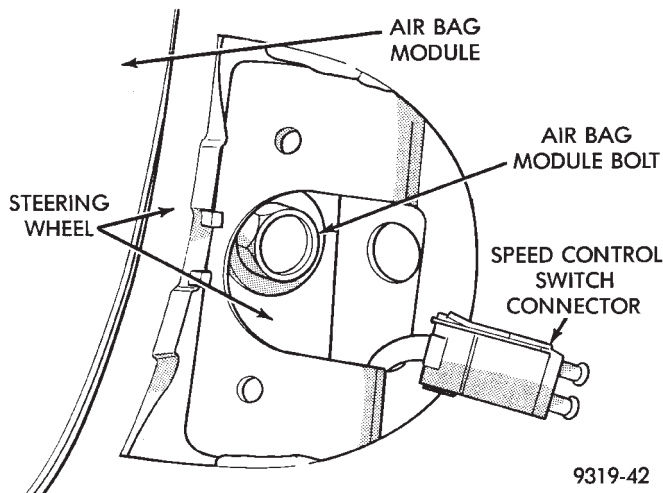

Fig. 21 Air Bag Module Attaching Bolts
(21) Install air bag module into steering wheel being careful not to pinch any wires. Install the 2 air bag module to steering wheel attaching bolts (Fig. 21). Center air bag module to steering wheel spokes and tighten bolts to hold air bag module in place.